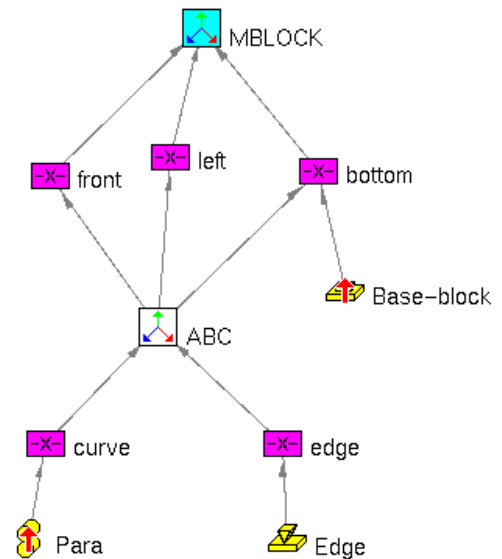

Figure 3.4
7. Your final Part Network Diagram should look like figure 3.4